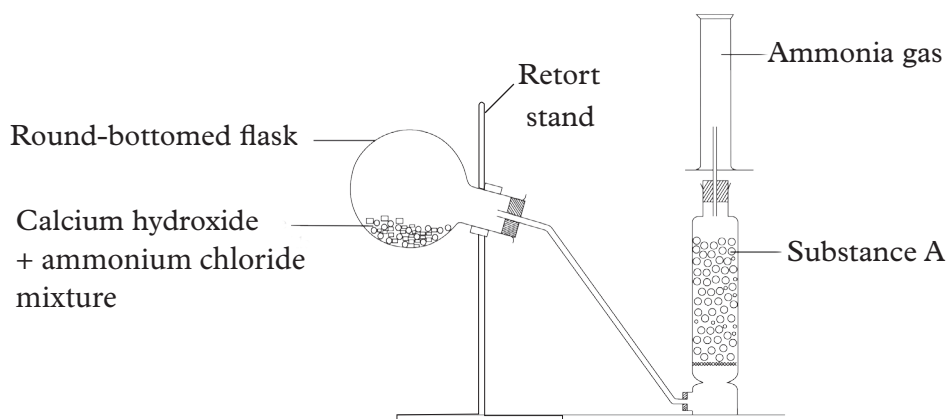

Fig 2.7: Laboratory set up for the preparation of ammonia
3. Arrange the apparatus as shown in fig 2.7.
2. Identify the chemical labelled substance A in the Fig 2.7 and state its function.